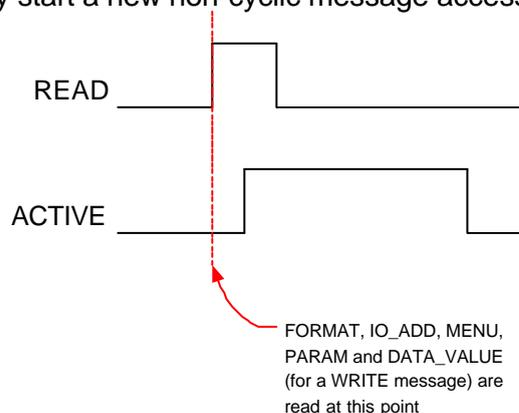

Fig 5 Parameter variable timings
- Once the ACTIVE bit is high, FORMAT and IO_ADDR can be changed without corrupting the current non-cyclic message in progress. The READ bit can also be reset and FB73 will complete the current non-cyclic message. If the READ bit is not reset, FB73 will immediately start a new non-cyclic message access. See figure 5.